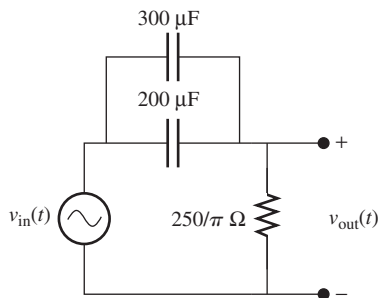

FIGURE P7.24 Filter for Problem 7.24.
7.24 (B)* Determine the break frequency and transfer function of the circuit in Figure P7.24.